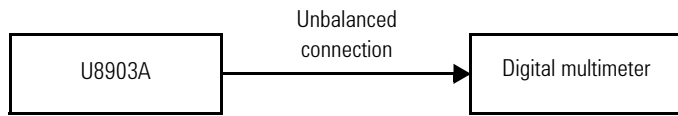

Figure 2-1 U8903A to digital multimeter connection for DC accuracy verification
- 1 Connect the U8903A output channel to be tested to the digital multimeter via the Unbalanced connection as shown in Figure 2-1. The BNC-to-banana jack adapter is used for this connection. Preset both the U8903A and digital multimeter.